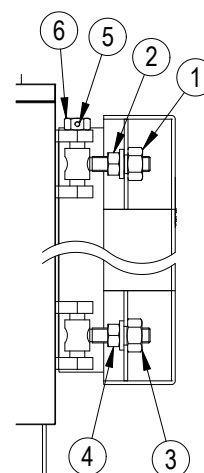

fig. 10
5.6.2 For models MEGAPREX 720N÷1060N (Fig. 10)